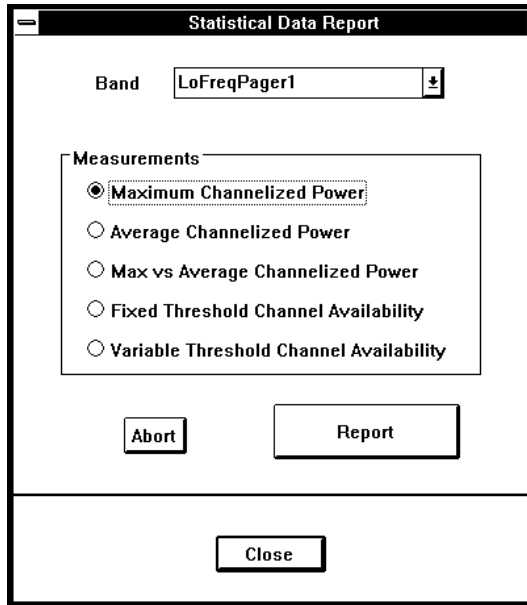

Figure 8-15: Statistical Data Dialog Box
1. Select **Statistical Measurements...** from the **Reports List** to open the **Statistical Data Report** dialog box (Figure 8-15).